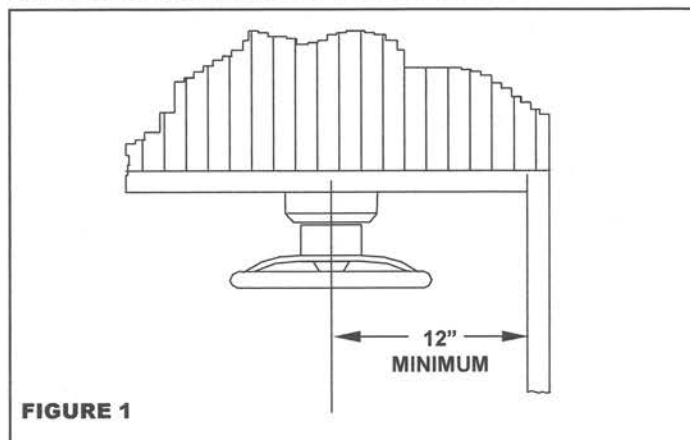

FIGURE 1
1. It is recommended that steering cables be routed to the starboard side of the boat. (Steering cables can be routed to port side but starboard side is preferred in order to balance engine torque). A minimum horizontal clearance of 12" is required from the gunwale to the center of the helm steering shaft (see Figure 1). This dimension controls the minimum acceptable bend radius of 8". A smaller bend radius will reduce steering performance and may result in premature cable failure.